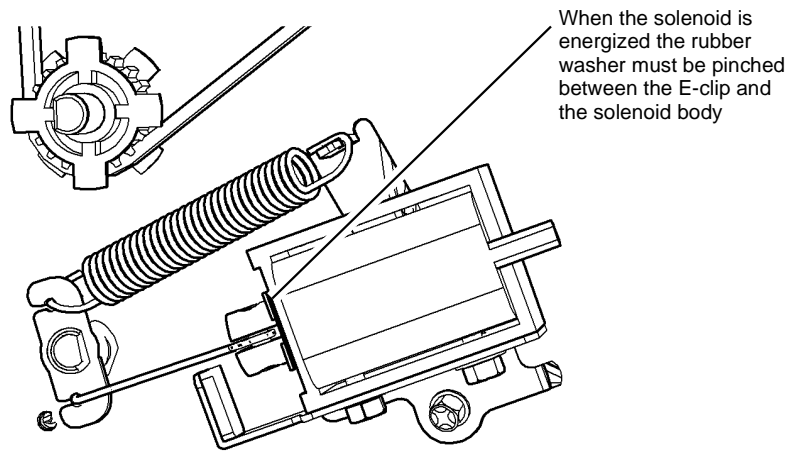

Figure 1 Solenoid position check
3. Figure 1, check the position of the solenoid.
4. If the condition stated in Figure 1 is not met, perform the adjustment.